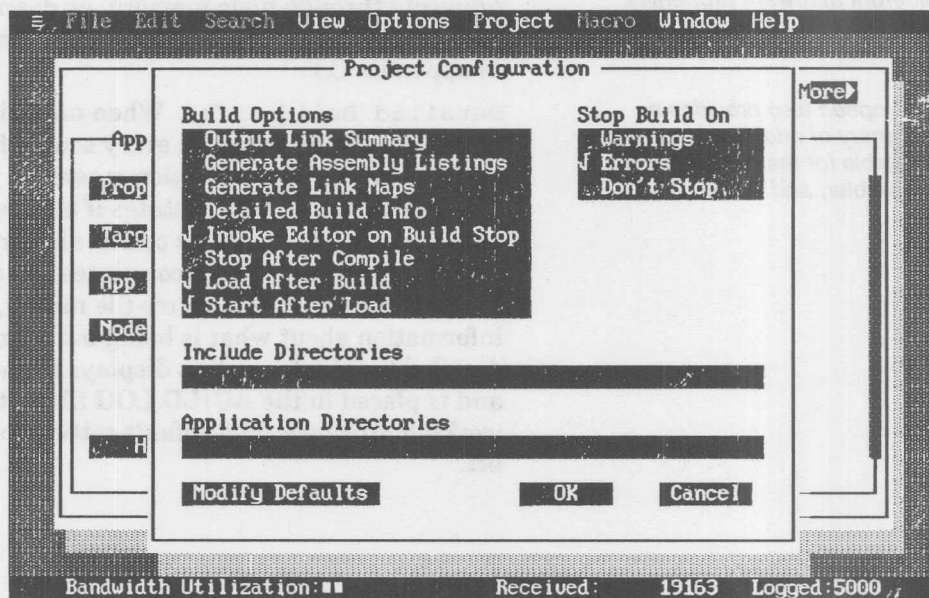

Figure 4-2. Project Configuration Window
- 2 Select the Project command to open the Project Configuration window (see figure 4-2).